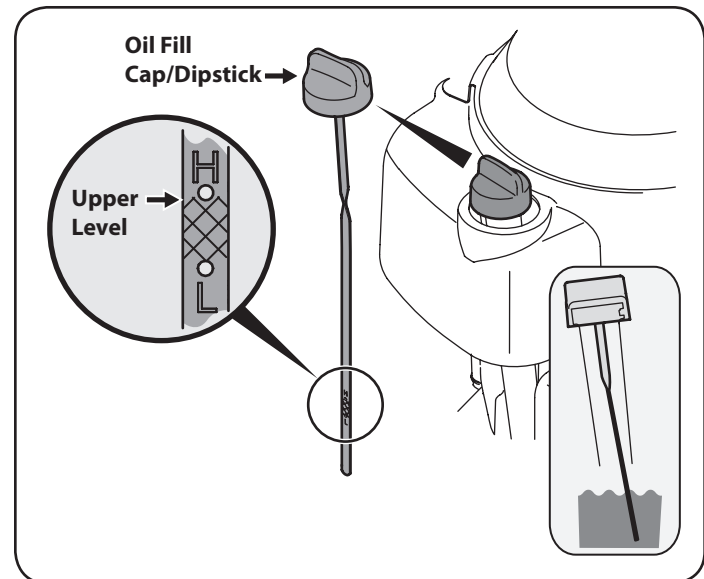

Figure 16
- Insert the dipstick into the oil filler neck. Turn the dipstick 1/4 turn into the locked position to fully seat. See Figure 16.
- If the level is low, slowly add oil until the reading is at the upper level on the dipstick. See Figure 16 inset.